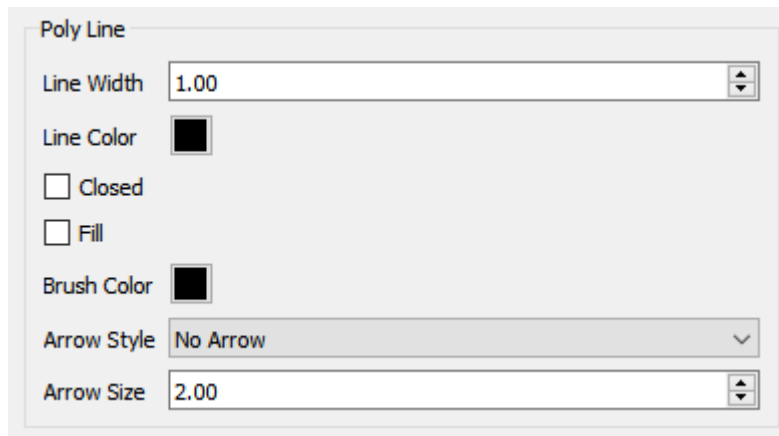

Figure 18.25: The view tool for a polyline.
- To add a polyline or polygon, click the  icon. Click once in the workspace to define the first point; click additional points to add, and then double click to finish. Properties are adjusted with the View tool shown in Fig. 18.25.